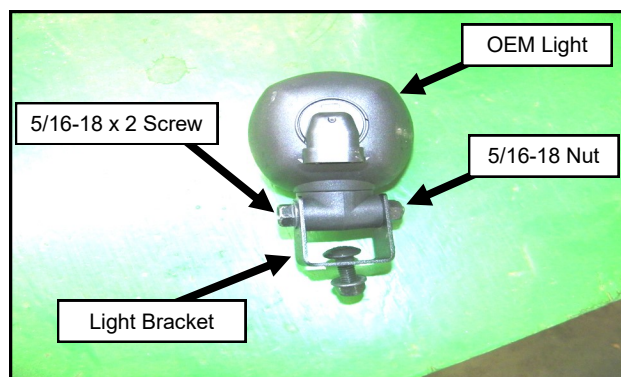

Fig. 18.3 (Pre-Assemble OEM Fender Lights)
- 18.3** If equipped, pre-assemble the light brackets onto the OEM fender lights. See Figure 18.3. The carriage screw must be preinstalled in the bracket before the light is mounted for clearance purposes.